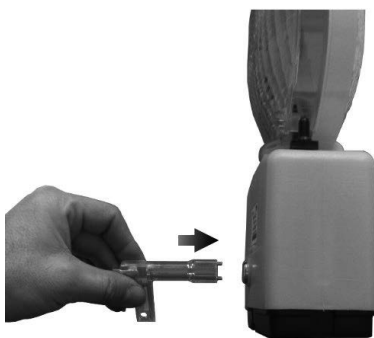

fig. 1
- Remove screw with a screwdriver (**fig 1+2**).